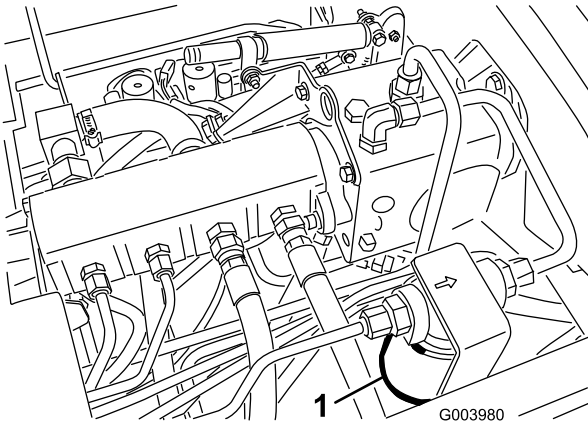
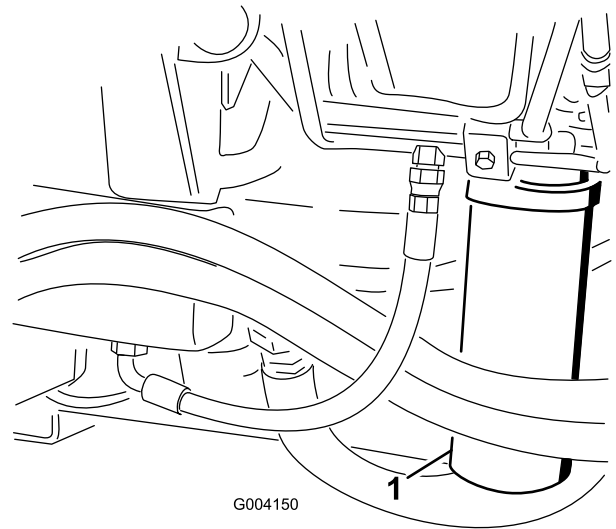

Figure 53
Figure 54
2. Clean the area around the filter mounting area and place a drain pan under filter (Figure 53) and (Figure 54).